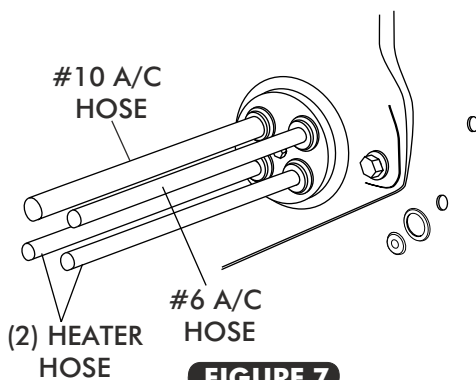

FIGURE 7
- ❑ ROUTE A/C AND HEATER HOSE THROUGH FRESH AIR CAP AND KICK PANEL FRESH AIR CAP AS SHOWN IN FIGURE 7 AND 7b, BELOW.